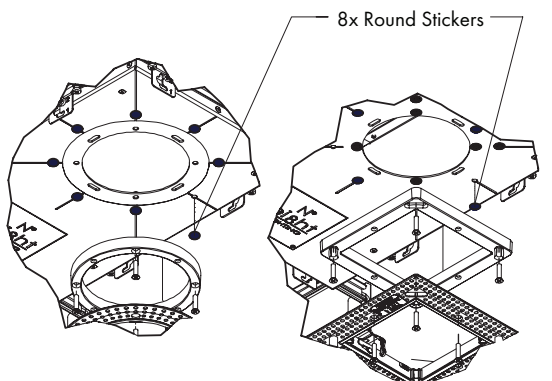

FIG 5.4 Sticker Application
- STEP 4 Apply Stickers over unused holes & slots as shown to prevent light leaks & maintain airtight standards compliance. No caulking required – **FIG 5.4.**